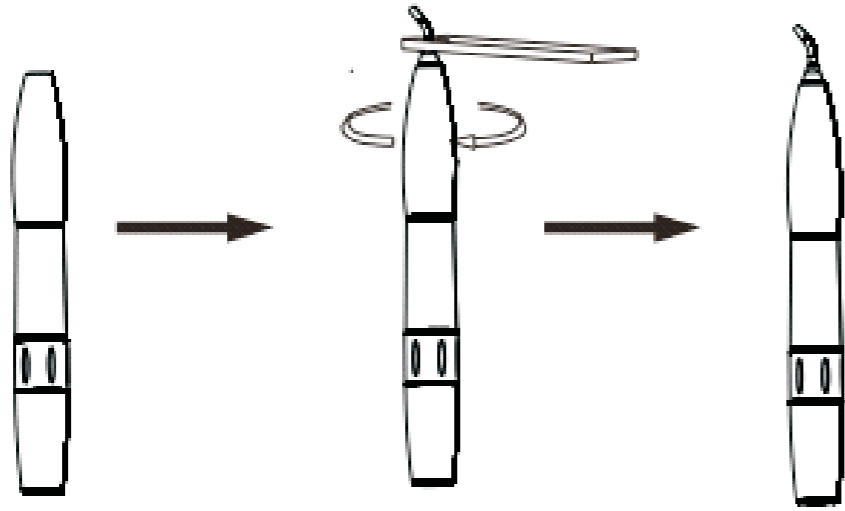

Figure 4
- 1) Fixing sandblasting nozzle in the sandblasting handpiece. (See figure 4)